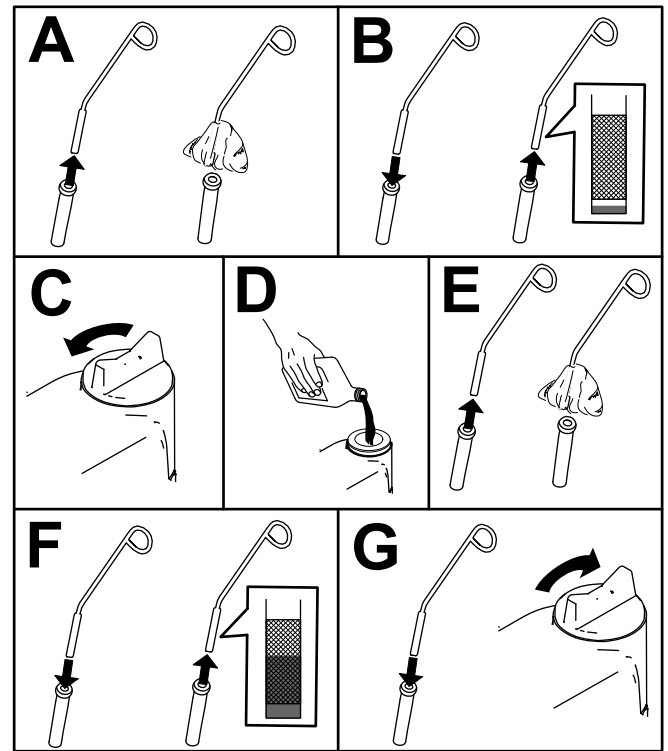

Figure 53
6. Check the oil and add additional oil as needed (Figure 53).